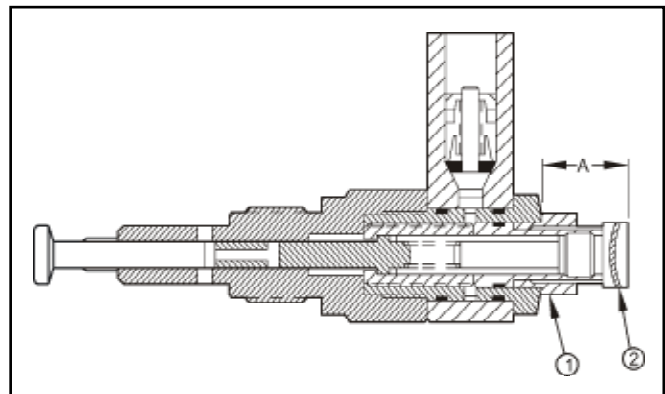

Figure 2-6
- 2.6.2 **Pump Output Adjustment.** The nominal delivery rate of the pumping element can be adjusted by loosening the locking nut (1) (See Figure 2-6) and rotating the adjustment screw (2) clockwise to reduce delivery, or counterclockwise to increase delivery of the lubricant. The output adjustment table describes the equivalent outputs that can be obtained by varying the distance "A" of the adjustment screw. (See Table 1)